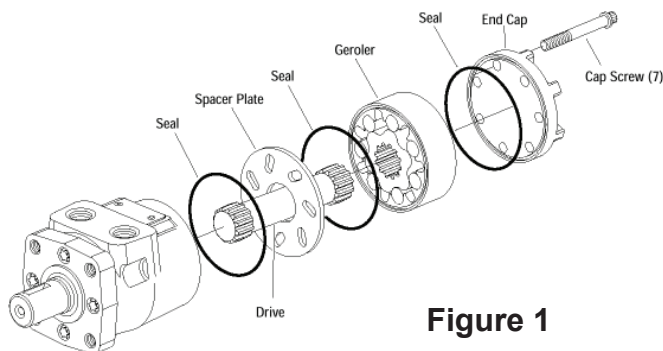

Figure 1
2. Remove the seven cap screws from the end cap and disassemble the motor as shown in Figure 1. Do not disassemble the Geroler.